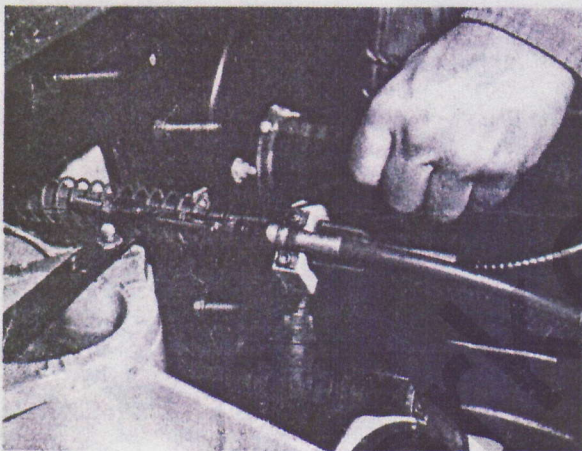

Figure 12
- 12 Attach control cable hub to adjusting clamp (12) on steering tube using cable clamp (30) two #10-32 socket head capscrews (31) and two #10 lock washers (32) (Figure 12). Make certain that internal ridge in clamp aligns with groove in cable hub.